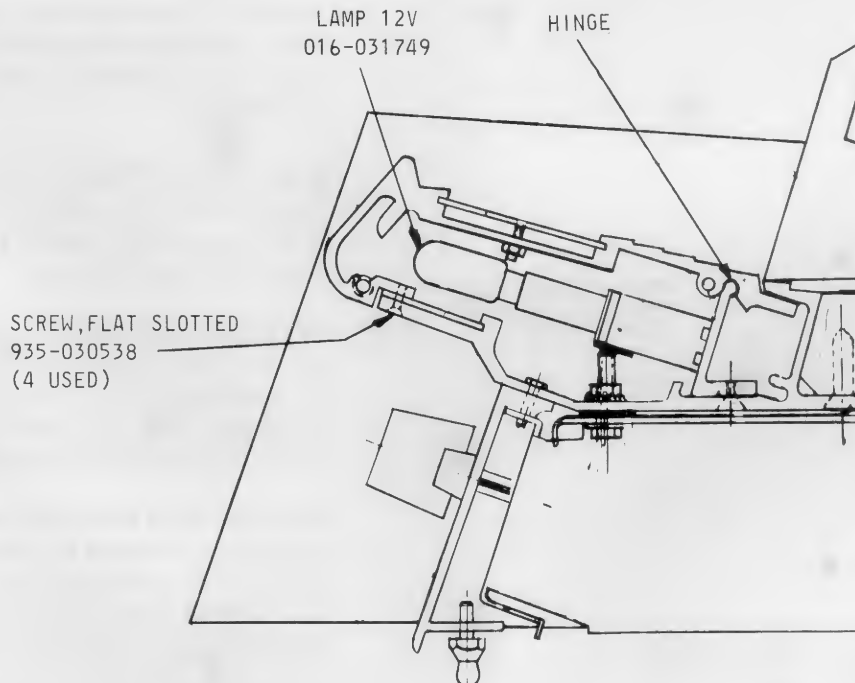

Fig. 3-4
1. Remove 4 screws (Phillips head) beneath light assembly (Figure 3-4).
2. Swing upper portion of assembly up on hinge (Figure 3-4).